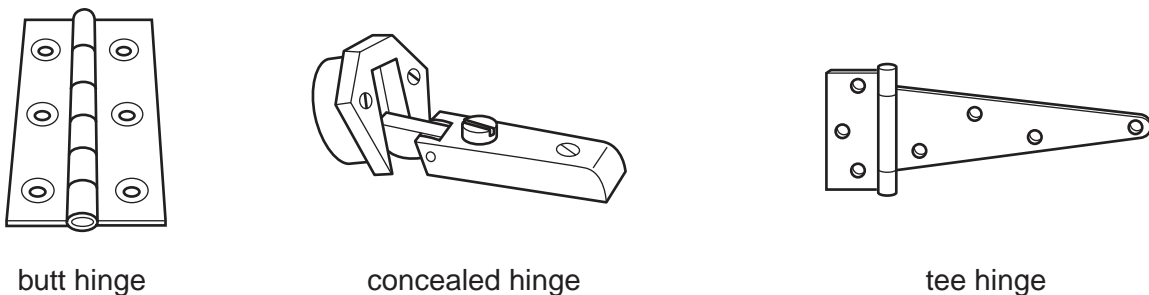

Fig. 8
- (e) Fig. 8 shows three types of hinge. Name **two** specific materials from which hinges are often made. [2]